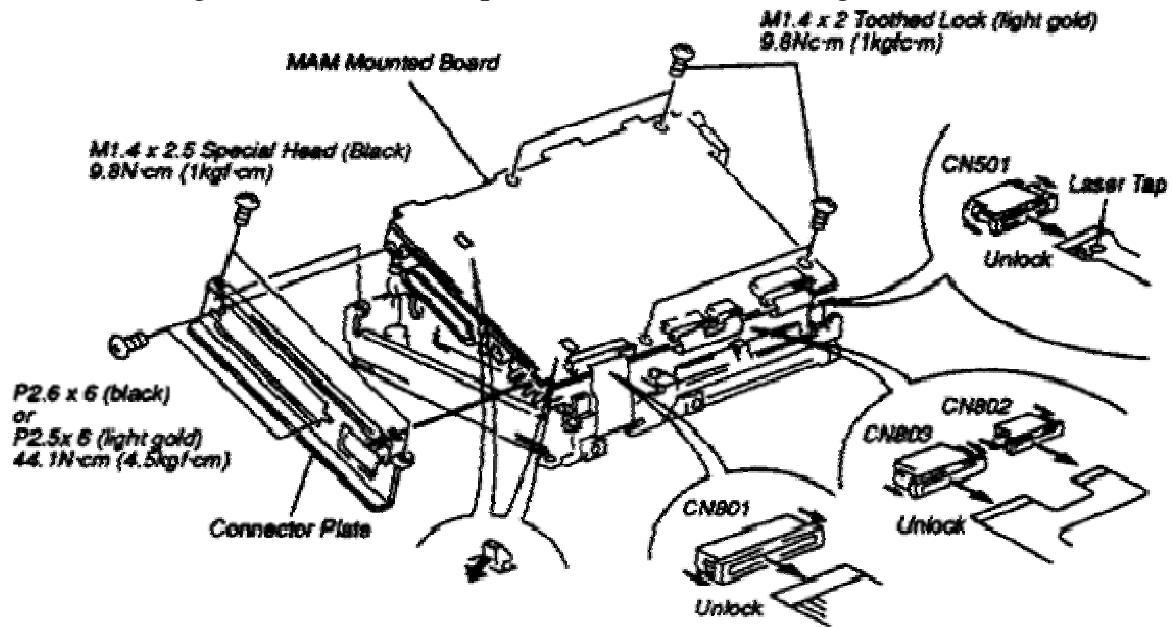

Fig. 4-3 Connector Plate and MAM Mounted Board Replacement
- a. Remove the two screws (P2.6x6/black or P2.5x6/light gold) and two screws (M1.4x2.5 Special Head/black) securing the Connector Plate to the MAM Mounted Board. (Refer to Fig. 4-3)
- b. Unlock the CN801, CN802 and CN803 as shown in Fig. 4-3 and disconnect all the flexible cables (CN801 for DC-DC converter, CN802 for REC mounted board ass'y, CN803 for mech con mounted board ass'y)
- c. Remove the four screws (M1.4x2 Toothed Lock/light gold) securing the MAM Mounted Board to the frame. (Refer to Fig. 4-3)